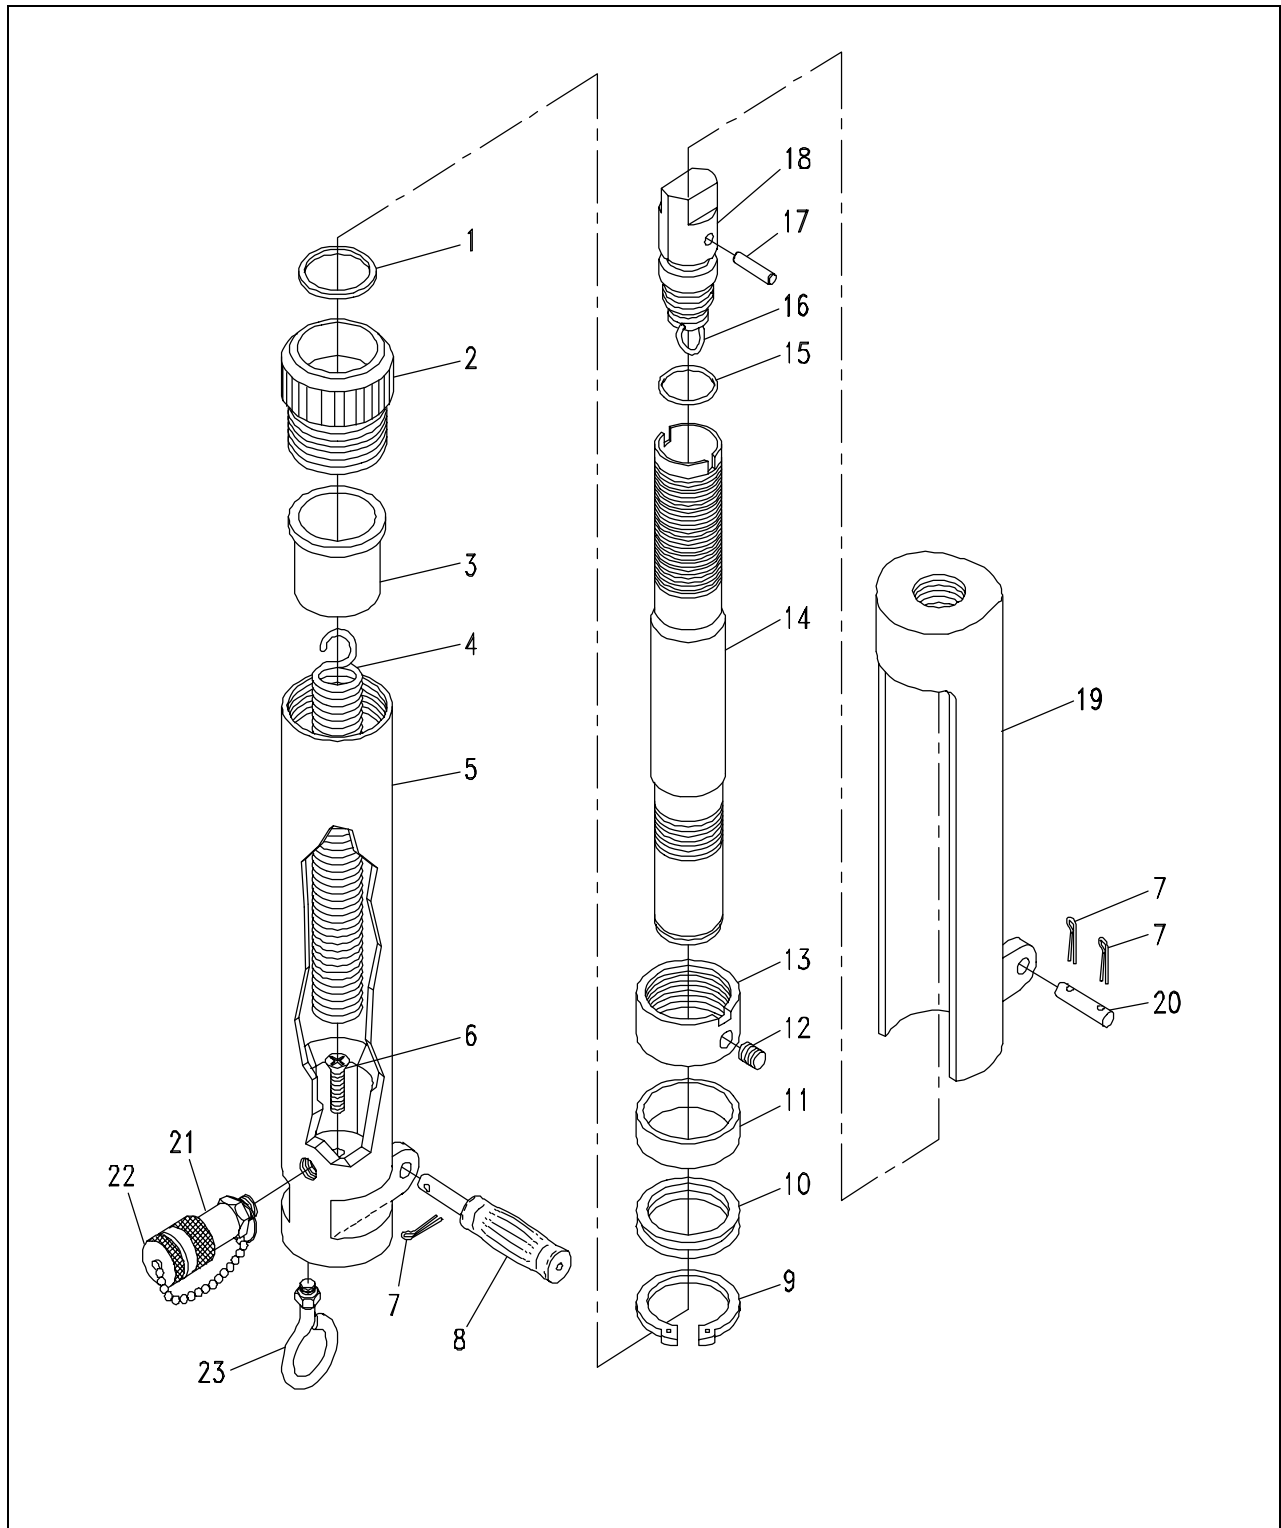

Figure B-5. Special Hydraulic Cylinder Assembly (Sheet 1).
- a. Figure B-5 illustrates the Hydraulic Cylinder components.